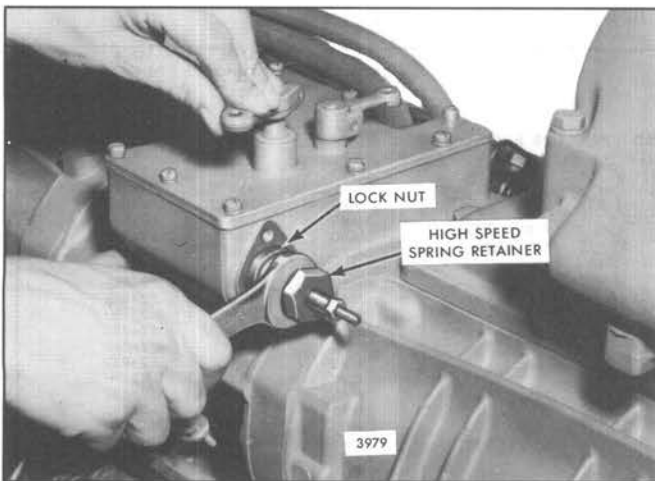

Fig. 8 – Adjusting Maximum No-Load Speed
1. Loosen the spring retainer locknut and back off the high-speed spring retainer approximately five turns (Fig. 8).